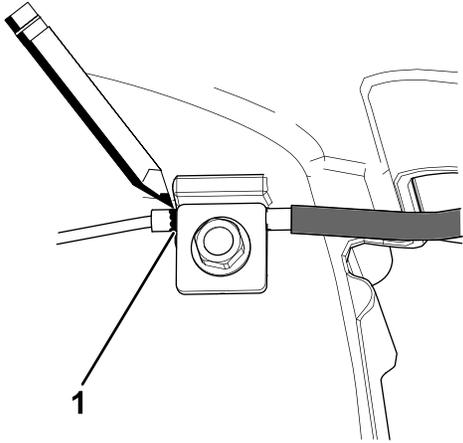
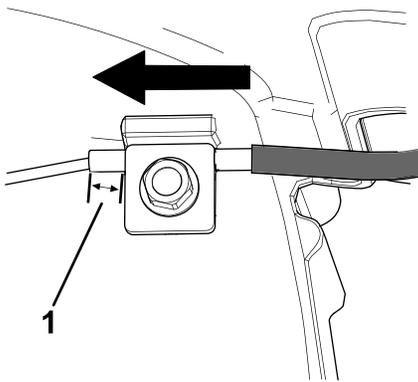

Figure 35
Figure 36
7. Mark the brake cable (Figure 35), then adjust the jacket until there is approximately 8 mm (5/16 inch) of slack (Figure 36).